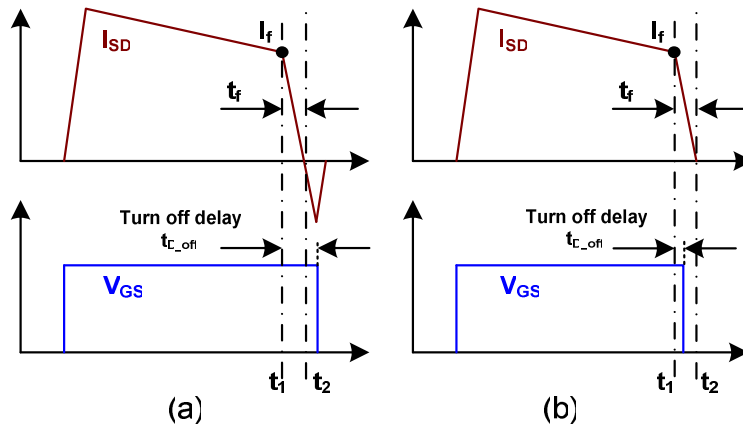
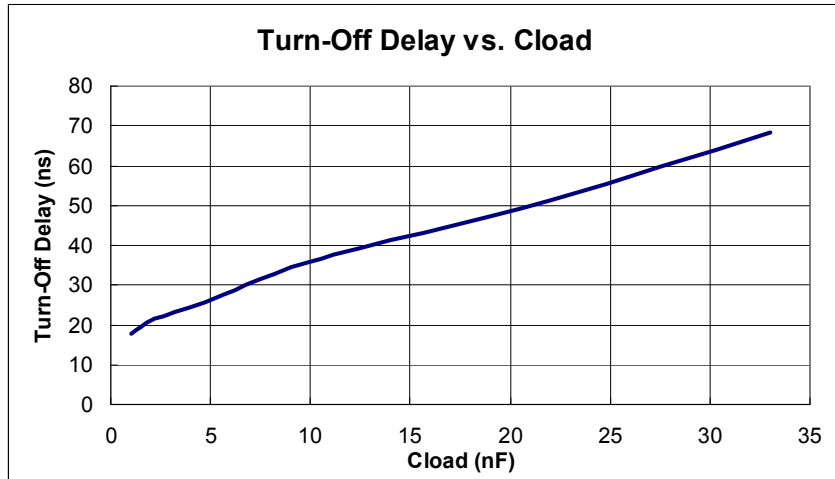

Figure 23 — CCM Turn Off of MP6902 in Flyback Converter
Figure 24 — Turn off Delay vs. C_{LOAD} for MP6902
Figure 23 shows the different turn-off timing of the SR FET gate driver which affect the switching current (I_{SD}).
In figure 23(a), reverse current (shoot through) occurs due to the gate driver V_{GS} is turned off after switching current I_{SD} crosses zero (at t_2).
Figure 24 shows the typical turn off delay of MP6902 with different capacitor load on gate driver. If this turn off delay is smaller than the CCM current turn-off falling time (t_f , from t_1 to t_2 in figure 23), no shoot through occurs, such like in figure 23(b).
The CCM current turn-off falling time in figure 23 can be derived as:
From figure 23, known that in order to avoid reverse current lead by shoot through in CCM Flyback with MP6902, it is preferred $T_{D_off} \leq t_f$ to make sure the gate driver be pulled down before switching current drops to zero.
From (23), we can get the desired T_{D_off} for this case is $\sim 22\text{ns}$. Then select the 60V SR MOSFET as AM90N06 from Analog Power, which has about 25ns turn-off delay according to figure 24.